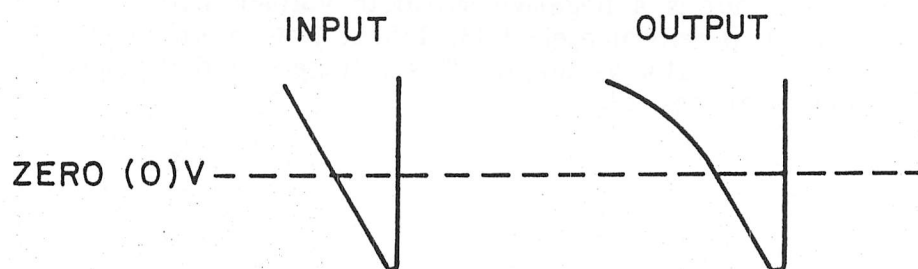

Figure 3-10. Shaping Network (A9) Input and Output Slopes
3.2.7 TYPE 796048 SHAPING NETWORK (A9) (Figures 3-10, 6-8)